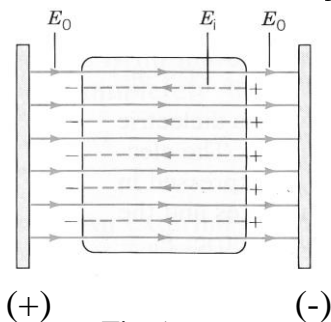

Fig.5
- The **dielectric constant** ( $\kappa$ -kappa) of a substance is a measure of "**how much it get polarized**" under the effect of an external electric field. A polar molecule ( $H_2O, NH_3..$ ) has a **permanent electric dipole moment**. In presence of an external electric field, there is a torque effect which tents to align the dipole moments  $\vec{P}$  along the direction of exterior field ( $\vec{E}_0$ ). At non-polar molecules ( $H_2, CH_4..$ ), the exterior field induces, at first, an electric moment and then the torque tents to align it along  $\vec{E}_0$ . In both cases, the dielectric surface in front of capacitor plates get opposite sign charge to that of the plate in front (fig.5).